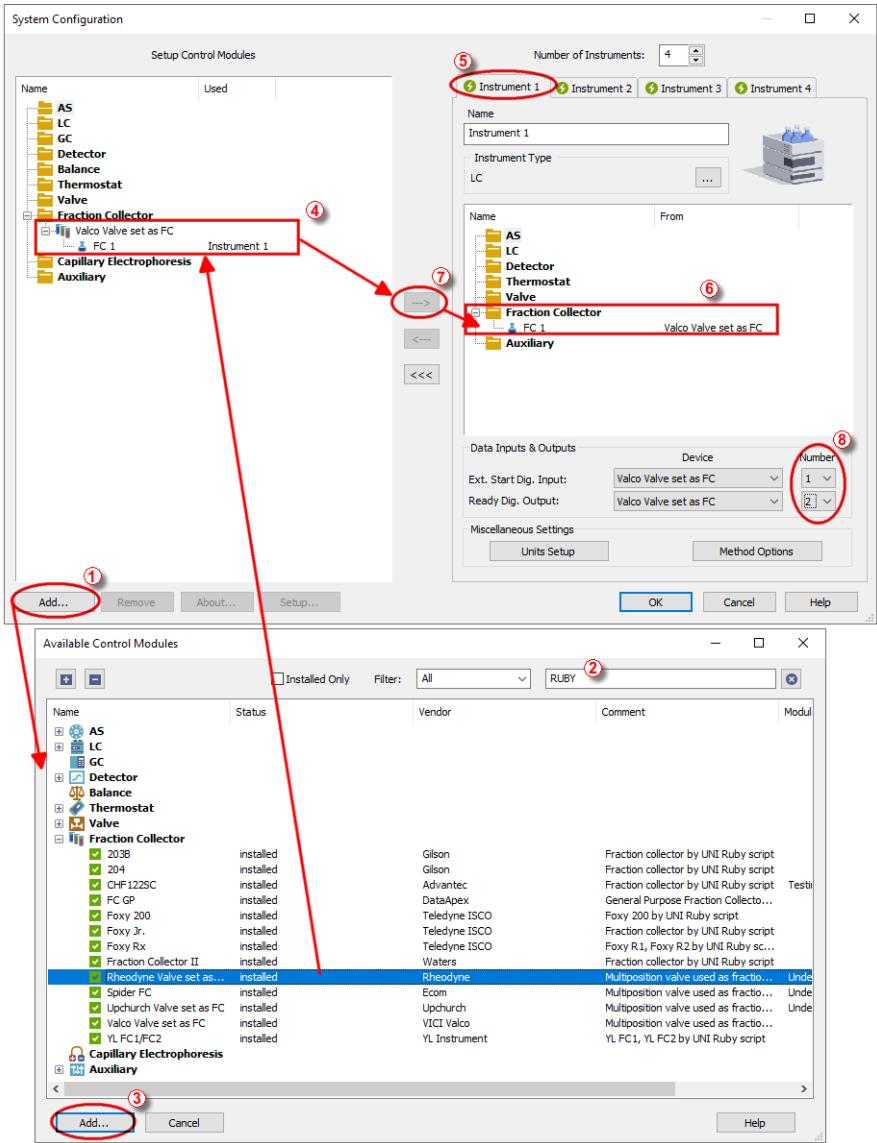

Fig. 3: How to Add FC by Vici Valco
- Press the **Add** button (① on **Fig. 3** on pg. 4.) to invoke the *Available Control Modules* dialog.
- You can specify the search filter (②) to simplify the finding of the driver.
- Select the correct item and press the **Add** (③ on **Fig. 3** on pg. 4.) button. Each device with already created UNI profile should have its own item named accordingly in the *Available Control Modules* dialog.